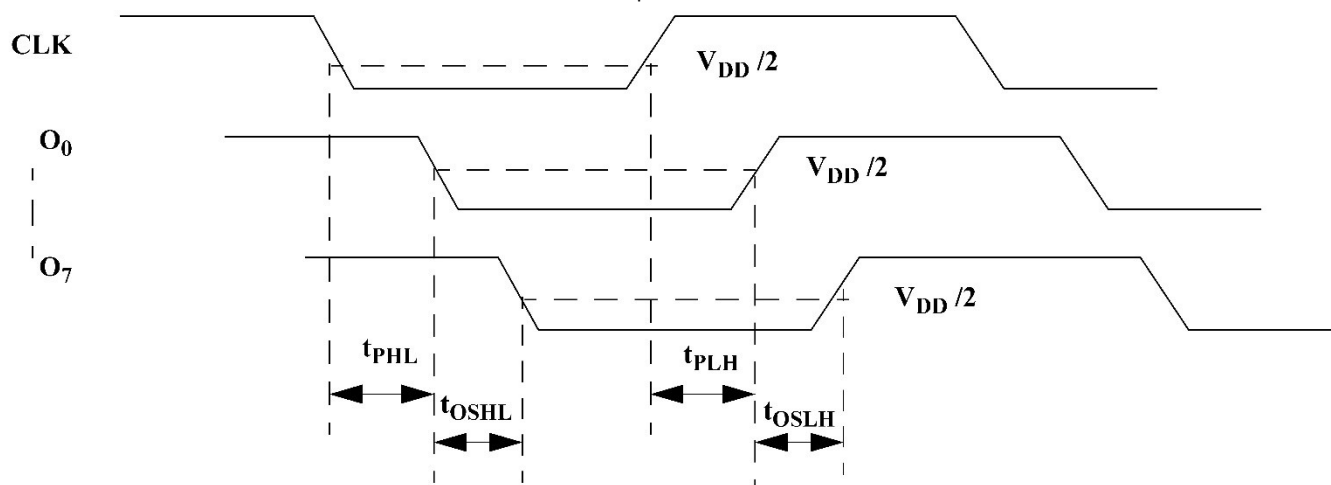

Figure 4. AC Timing Diagram
2. Reference Figure 4 for AC timing diagram.